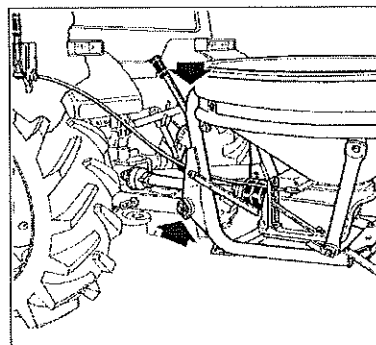

Fig.15
- Opening adjustment drive, controlled from the seating-point (Fig.15)